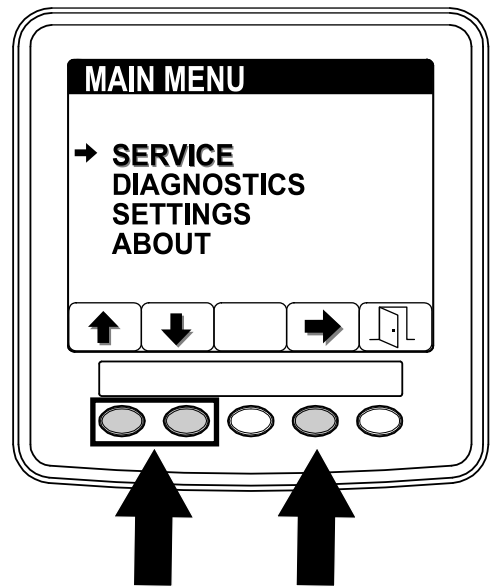

Figure 49
1. On the MAIN MENU, press button 1 or button 2 to navigate to the SERVICE option, and press button 4 to select the SERVICE entry (Figure 49).